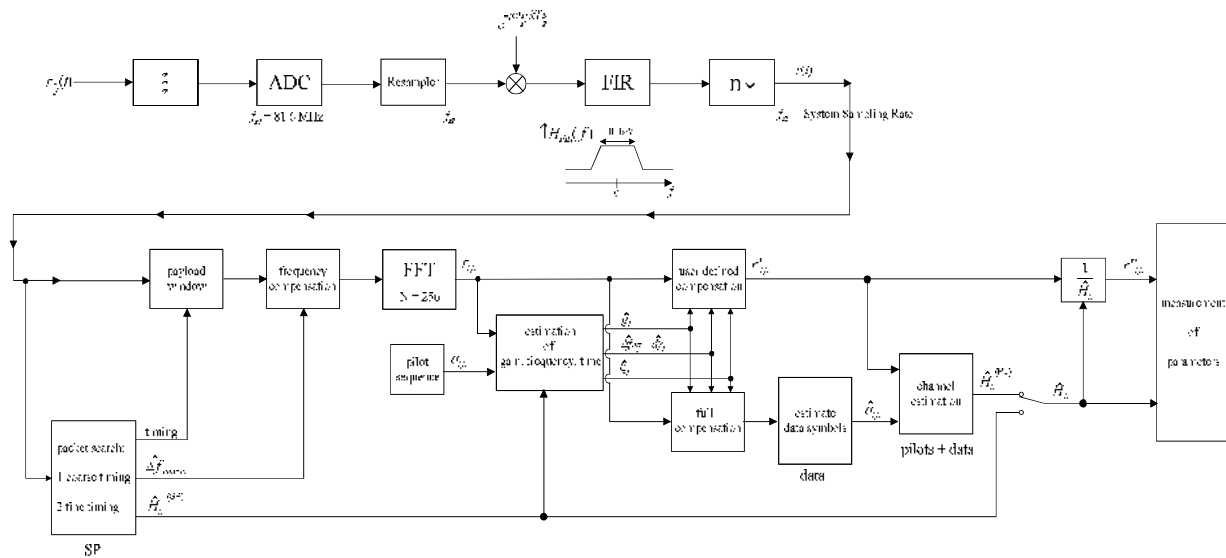

Fig. 2–61 Signal processing of the IEEE 802.16 OFDM measurement application
A diagram of the interesting blocks is shown in Fig. 2–61. First the RF signal is down-converted to the IF frequency $f_{IF} = 20.4$ MHz. The resulting IF signal $r_{IF}(t)$ is shown on the left-hand side of the figure. After bandpass filtering, the signal is sampled by an Analog to Digital Converter (ADC) at a sampling rate of $f_{s1} = 81.6$ MHz. This digital sequence is resampled to the new sampling frequency of $f_{s2} = 80$ MHz which is a multiple of the Nyquist rate (20 MHz). The subsequent digital down-converter shifts the IF signal to the complex base band. In the next step the base band signal is filtered by a FIR filter. To get an idea, the rough transfer function is plotted in the figure. This filter fulfils two tasks: first it suppresses the IF image frequency, secondly it attenuates the aliasing frequency bands caused by the subsequent down-sampling. After filtering, the sequence is sampled down by the factor of 4. Thus the sampling rate of the down-sampled sequence $r(i)$ is the Nyquist rate of $f_{s3} = 20$ MHz. Up to this point the digital part is implemented in an ASIC.
In general, the coarse frequency estimate $\hat{\Delta f}_{\text{coarse}}$ (see Fig. 2–61) is not error–free. Therefore the remaining frequency error Δf_{rest} represents the not yet compensated frequency deviation in $r_{l,k}$. Consequently the overall frequency deviation of the device under test (DUT) is calculated by $\Delta f = \hat{\Delta f}_{\text{coarse}} + \Delta f_{\text{rest}}$. Remark: The only motivation for dividing the common phase drift in equation (2) into two parts is to be able to calculate the overall frequency deviation of the DUT.